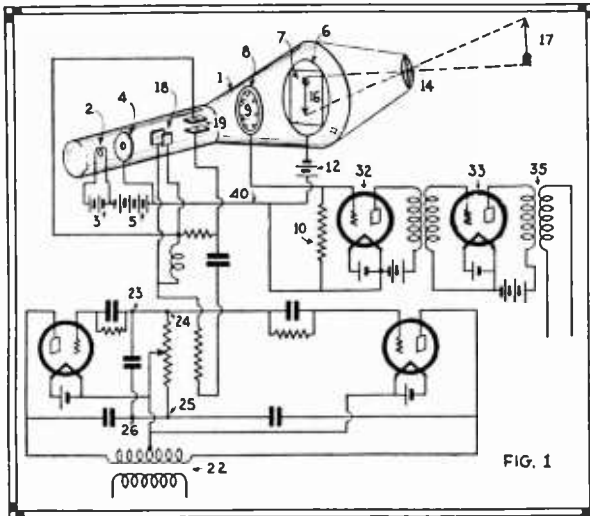

FIG. 1
J. J. Thomson—he of early electronic fame—was first to describe the effect of discharging a condenser through a coil, in which there had been placed a partially-exhausted glass container; this was in 1891. The general arrangement is shown in Fig. 1, where a simple globe
C. A. SABBAH, of Schenectady, N. Y., has been able to attain encouraging results in the field of television with a Braun tube. The transmitting arrangement is shown in Fig. 1. The Braun tube is marked 1; the cathode 2, is heated by a battery 3; the anode 4 has the form of a diaphragm. The pencil of cathode rays which passes through the diaphragm is deflected in the usual manner, by means of two pairs of plates, 18 and 19, set at right angles; the scanning takes place in a spiral order.
In the flying-spot system—sometimes termed "indirect-pickup"—the subject is scanned by a moving spot of light and a photo-cell or bank of cells is used to pickup the reflected light. The optical system is skeletonized in Fig. 1, where the essential portions of the system are given. The light-source may be a D.C. arc or a high-intensity filament-type lamp—depending upon the voltage supply available and the type of cells employed in the studio. Light from this source is concentrated by means of a reflector and a condenser-lens system, as shown, and in such a manner as to just cover an aperture having the same size as the image subtended by the first and last apertures in a highly accurate scanning disc. Since we will find the motion-picture lens most readily obtainable for our purpose, we might just as well assume the use of motion-picture apparatus throughout. This will permit our assuming the use of projection lenses of the class found in theater supply houses in every large city.